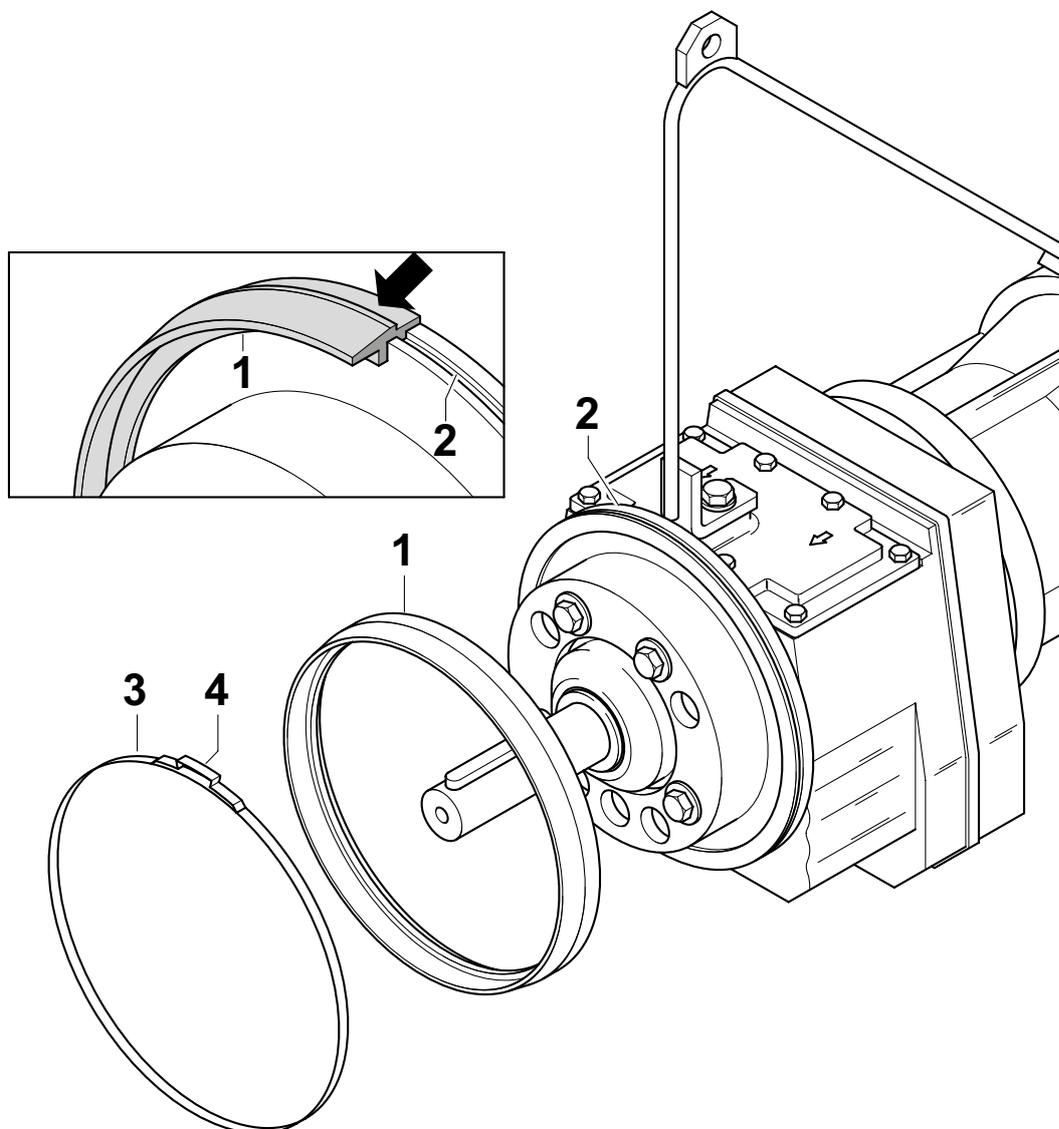

Figure 19 SD-ring removal/assembly
NOTE In Figure 19 the exchange of the SD-ring on a RW mixer motor is shown. The installation on the flow booster is similar.
- When refitting the SD-ring (19/1), this should be pressed around its circumference by hand as shown in Figure 19 and pressed down into the groove of the motor cover.